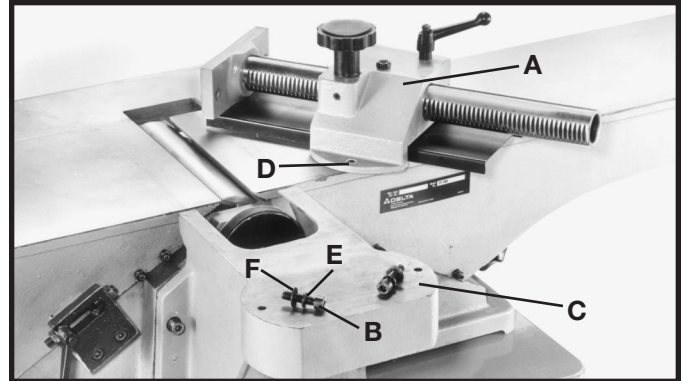

Fig. 15
1. Fasten fence carriage assembly (A) Fig. 15, to cutterhead pulley guard/carriage mounting bracket (C). Align the holes in the fence carriage assembly (A) one of which is shown at (D), with the holes in the pulley guard/carriage mounting bracket (C). Place a M8.1 lockwasher (E), then an M8 flat washer on an M8x1.25x20mm hex socket head screw (B). Insert the screw through the hole in the fence carriage assembly, and thread the screw into the tapped hole in the cutterhead pulley guard/carriage mounting bracket and tighten securely. Repeat this process for the remaining hole in the fence carriage assembly and the cutterhead pulley guard/carriage mounting bracket.